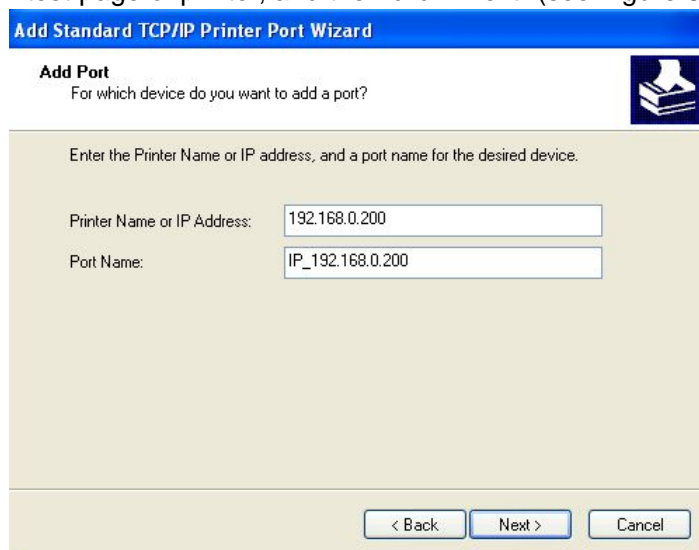

Figure 5.3.5
5) In relative editing box, fill in “Printer Name or IP Address”. The contents filled in should be consistent with that on the self-test page of printer, and then click “Next” (see Figure 5.3.5);